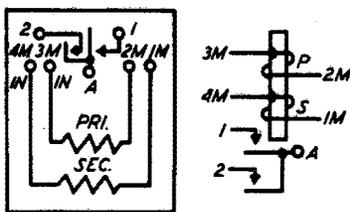

Fig. 3 — Winding and Spring Terminal Arrangement as Viewed From the Rear (terminal side) — B-, C-, G-, and J-Type Relays
2.13 Armatures are not designated from the front. As viewed from the rear of the relay, contact spring and winding terminals are located in three rows as shown in Fig. 3. The contact spring terminals are located in the top row and are numbered consecutively from right to left. The winding terminals are located in the middle row and are designated from right to left. The letter M following the number indicates the middle row of terminals.